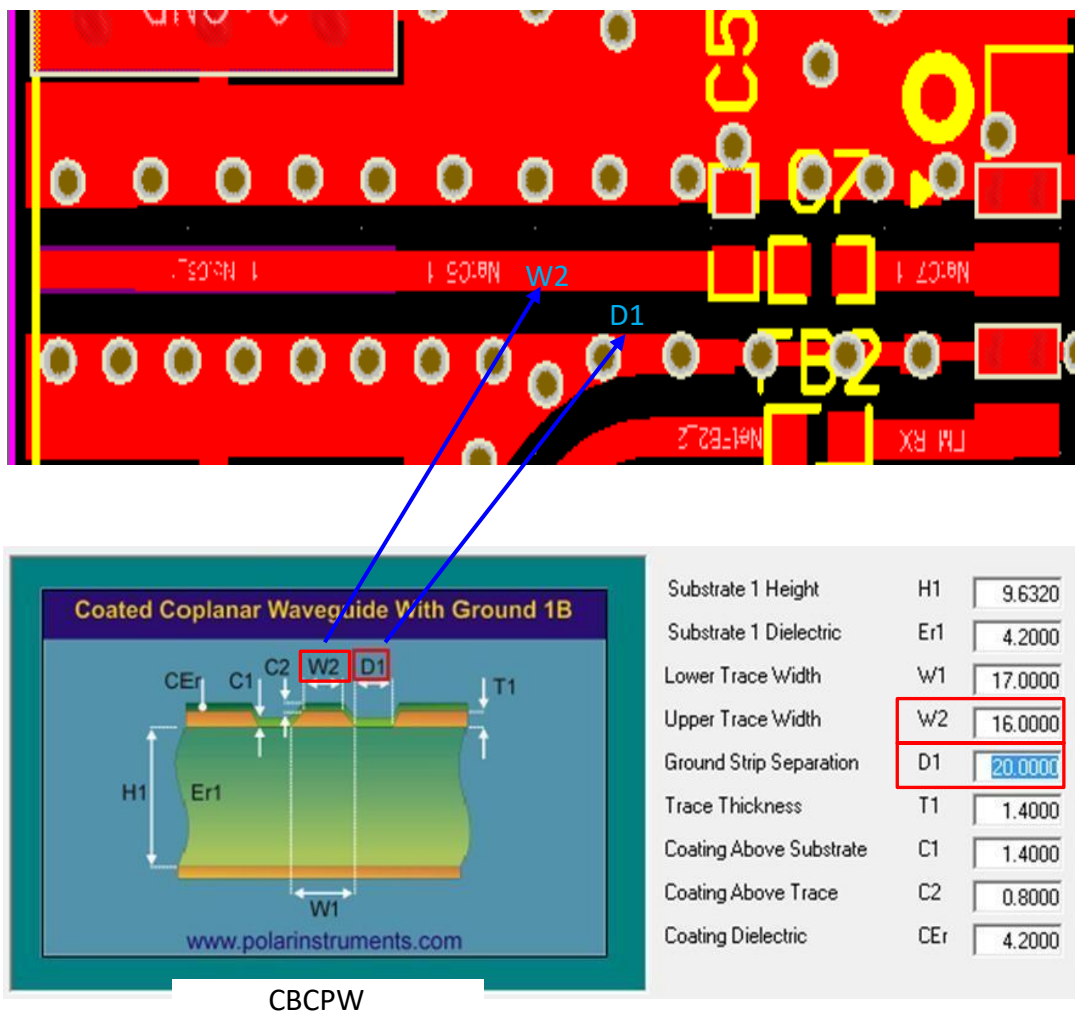

Figure 2
- The line width of RF transmission line is 8mil or above by well-designed microstrip line or CBCPW based on specific PCB stack-up and well-selected reference ground plane as Figure 2.